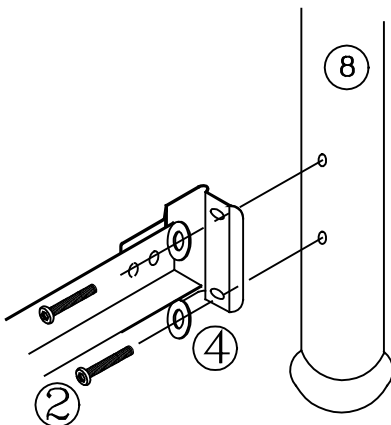

FIGURE 3
- Discard Leg extension (6) for footboard attachment to frame.
- Position footboard panel and align holes in the panel (8) post with holes in the frame bracket. See figure 3
- Place flat washer (4) on each screw (2). Insert through bracket and into post. Hand-tighten, DO NOT TIGHTEN screws all the way.